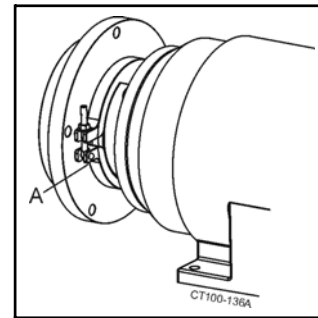

Figure 12 - Remove Clamp
- Remove clamp securing backplate to motor adapter (Figure 12, item A).